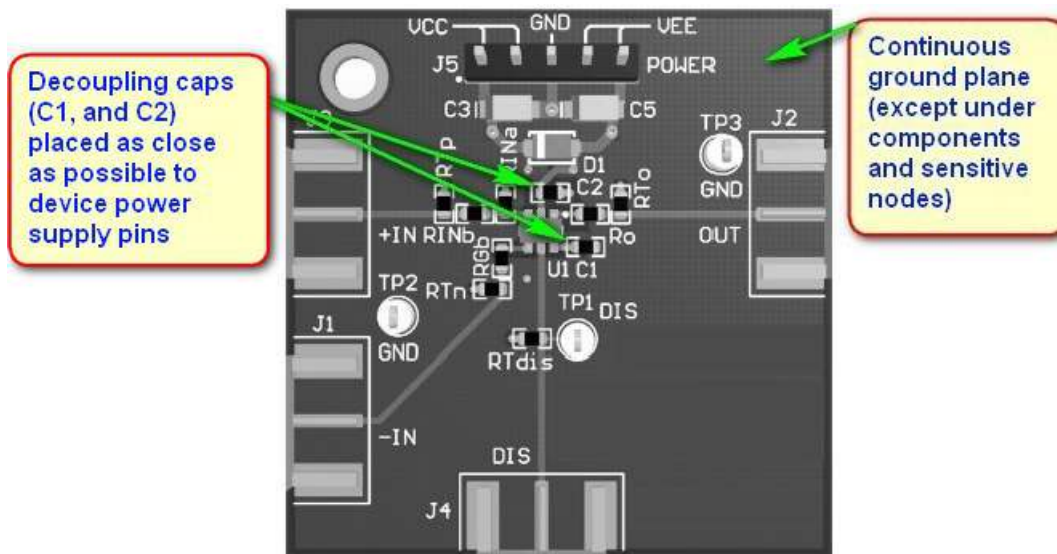

Figure 28. LMH6702-MIL Evaluation Board Layer 1
- Continuous ground planes are preferred for signal routing with matched impedance traces for longer runs. However, open up both ground and power planes around the capacitive sensitive input and output device pins as shown in Figure 28. After the signal is sent into a resistor, parasitic capacitance becomes more of a bandlimiting issue and less of a stability issue.
- Use good, high-frequency decoupling capacitors (0.1  $\mu\text{F}$ ) on the ground plane at the device power pins as shown in Figure 28. Higher value capacitors (2.2  $\mu\text{F}$ ) are required, but may be placed further from the device power pins and shared among devices. For best high-frequency decoupling, consider X2Y supply-decoupling capacitors that offer a much higher self-resonance frequency over standard capacitors.